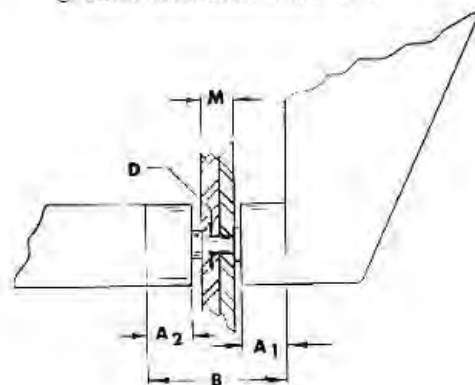

FIG. 3
(A) Driving flat head on flat manufactured head rivet, using two flush sets (figure 3).